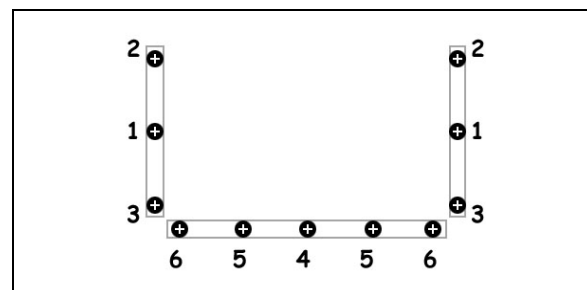

FIGURE 67 : CORRECT TIGHTENING SEQUENCE
9. While a helper is pressing on the window from outside, install the awning window clamping frame and tighten screws according to the sequence shown in FIGURE 67.